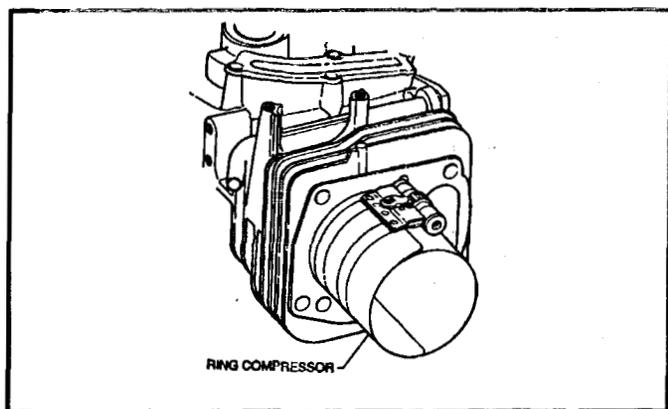

Figure 76
3. Push the piston out of the ring compressor and into the cylinder. See Figure 76.